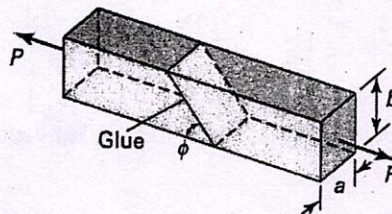

Figure 1
Q.1 Two prismatic bars of a by b rectangular cross section are glued together as shown in Figure 1. The allowable normal and shearing stresses for the glued joint are 700 kPa and 560 kPa, respectively. Assuming that the strength of the joint controls the design, what is the largest axial load P that may be applied? Use $\phi = 40^\circ$, $a = 50$ mm, and $b = 75$ mm.